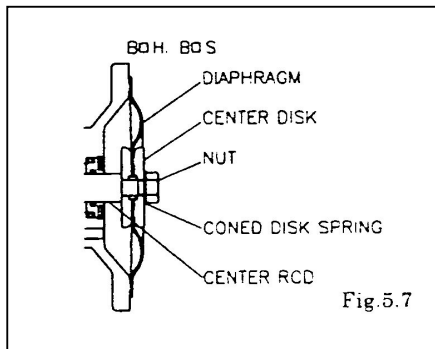

Fig. 5.7
- Keep the convex side to the outside. (cf. Fig. 5.7)